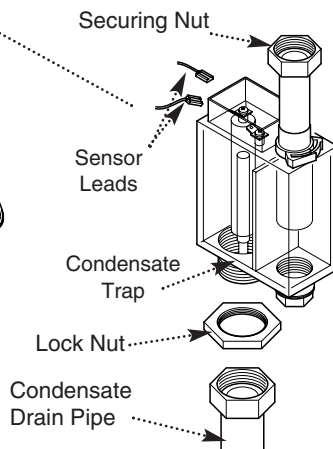

Fig. 54
- e) Undo the condensate trap securing nut, lock nut and the condensate drain pipe. Remove the condensate trap and disconnect the sensor leads (Fig. 54).